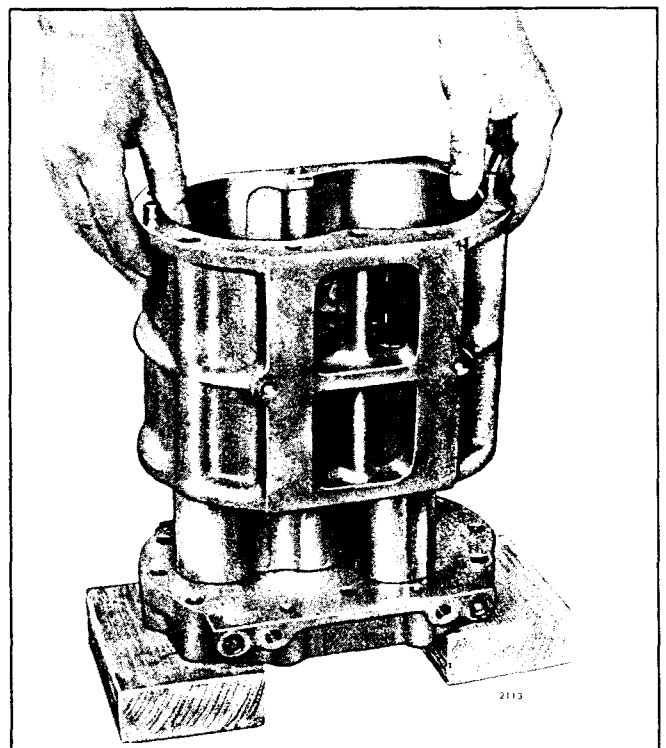

Fig. 11 - Installing Blower Housing Over Rotors
4. Install the blower housing over the rotors (Fig. 11).